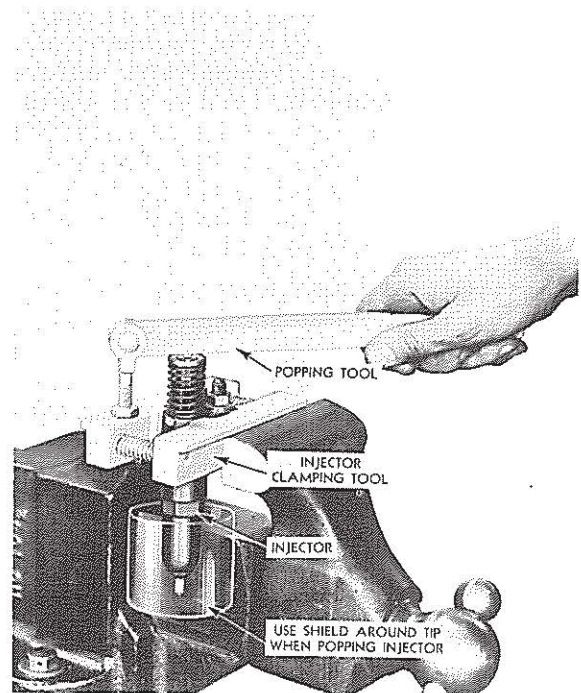

FIG. 18
1. After an injector has been rebuilt it should be tested before it is installed in the engine. This test is known as "Popping the Injector," and is accomplished with tool as shown in Fig. 18.